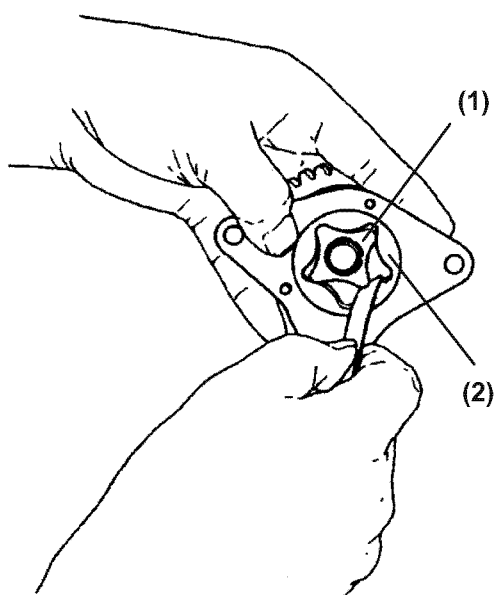

Figure 9-18
Inspect the tip clearance between the outer and inner rotors. To inspect this, insert a feeler gauge between the inner rotor tooth tip (**Figure 9-18, (1)**) and the outer rotor tooth tip (**Figure 9-18, (2)**), and measure the clearance.